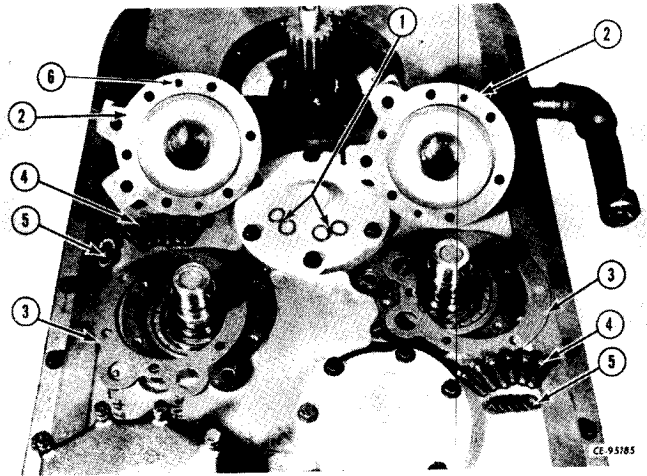

Figure 4-71
Install new gaskets (3, Fig. 4-71) and "O"-rings (1) beneath oil supply covers (2). Secure covers with cap screws (4) and lock washers (5). Tighten cap screws to recommended torque (refer to "SPECIAL TORQUES").